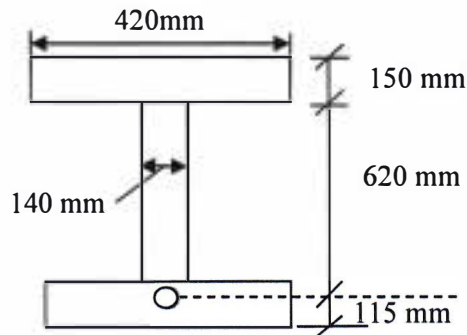

Figure: 4
- (b) Draw the load deflection curve of a prestressed beam. (6)
5. (a) Fourteen steel wires of 9 mm diameter with anchorages are used for prestressing of a 15 m (14) pretensioned beam. The beam has symmetrical I-section shown in **Figure: 4**. [Given, $f_o=860\text{MPa}$, $f_{se}=750\text{MPa}$, $f'_c=40\text{MPa}$, $f'_t=1.58\text{MPa}$, $f'_b=3.16\text{MPa}$, $M_G=75\text{ kN-m}$, $M_T=270\text{ kN-m}$ at midspan]. Determine the position for the c.g.s. line.